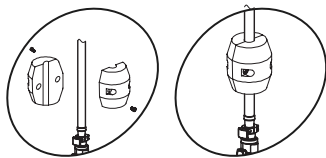

Fig. 3
7. Install the weight on the retractable spout according to Fig. 3.